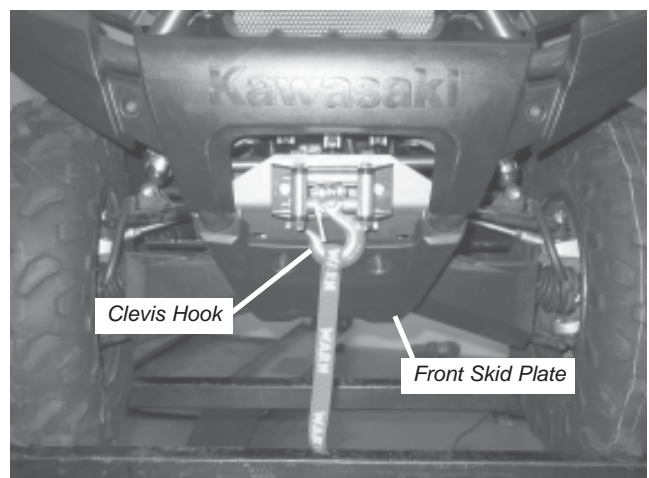

Figure 10 Complete Winch Installation
5. Switch the winch clutch to freespool. Manually feed the winch cable through the roller fairlead. Attach the clevis hook to the end cable loop, Figure 10. Reinstall front skid plate with original hardware from step 1 and securely tighten.
Plow and winch mount installation is now complete and should look like Figure 10.